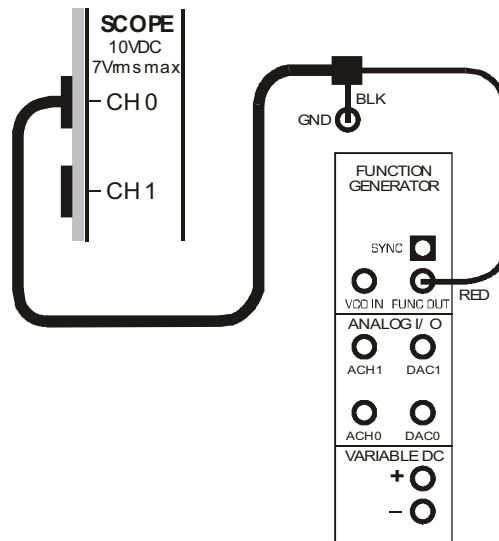

Figure 13
32. To observe the function generator's output, connect the set-up shown in Figure 13 below.